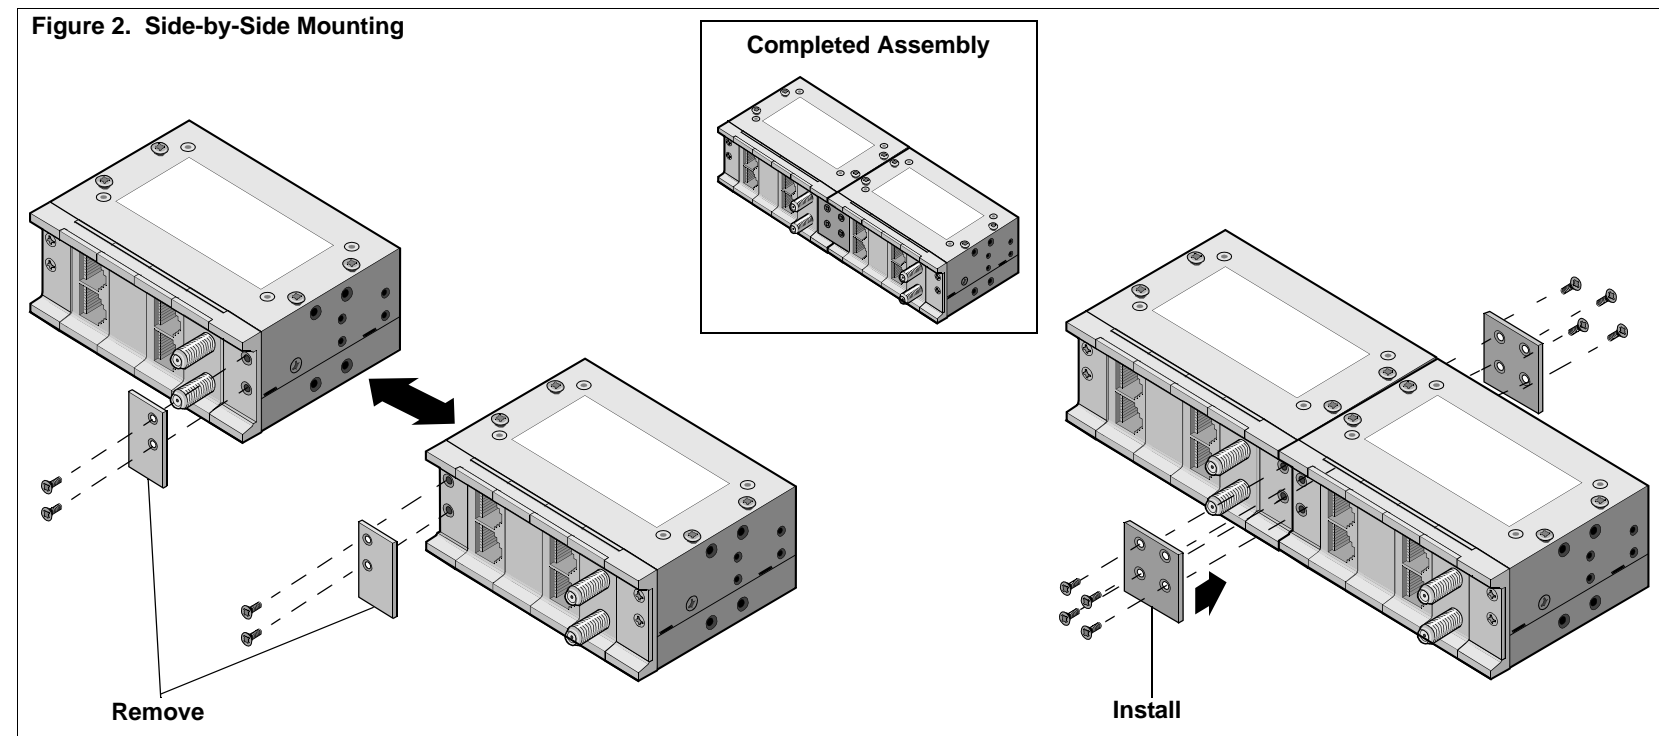

Figure 1. Stacked Mounting and Module Installation
APC recommends the ProtectNET PRM4 Data Line Surge Protection chassis (1 in Figure 1) be installed using the optional mounting brackets (see Detail A, Figure 1) that are available from APC (order PRMLB). In applications where more than one PRM4 chassis is used, the chassis' can be stacked (see Figure 1), or mounted side-by-side (see Figure 2) using the joining plate (2), and the machine screws supplied with the chassis.